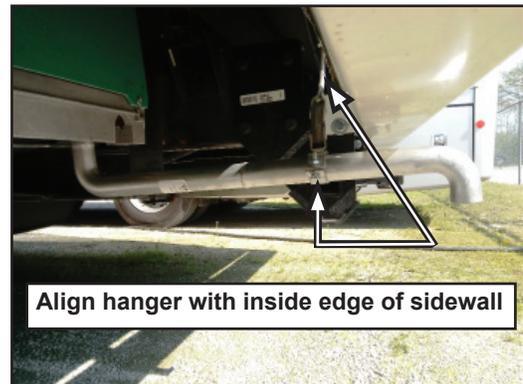

Figure 7
8. Reinstall the generator exhaust hanger onto the new generator exhaust pipe below the inner edge of the rear wall using a 1/2" open end wrench and a ratchet with a 1/2" deep well socket. Then, using a 3/8" driver bit and drill, install a 1/4" HWH self-tapping screw thru the third hole (from the top) of generator exhaust pipe hanger into the inside of the rear wall, 1" up from the bottom of the wall, reference Figures 7 and 8 for clarification. Install a second 1/4" HWH self-tapping screw into the top hole on the generator exhaust hanger, taking care to not over torque as the top screw is being secured into sheet steel only.